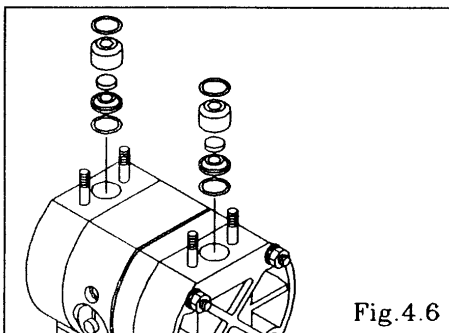

Fig. 4.6
- Remove the O ring, valve stopper, flat valve and valve seat. [Fig.4.6]